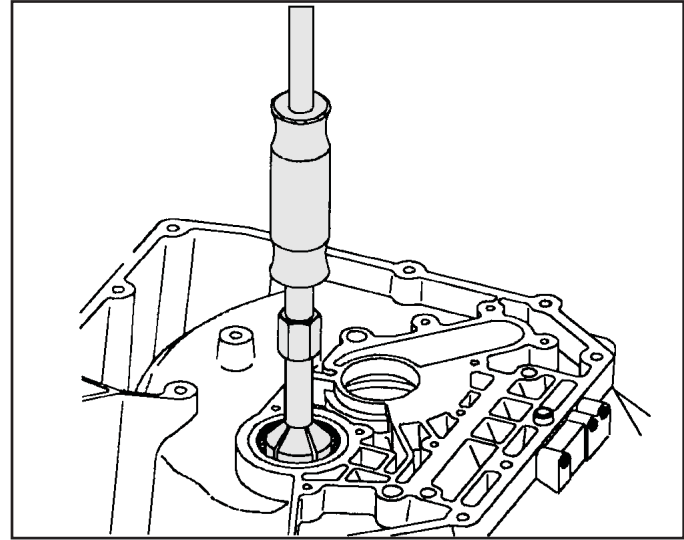

Figure 76
26. Inspect the output shaft bearing. If damaged, remove and replace the bearing using Saturn's tool SA9113T and SA9113T or equivalent as shown in Figure 76.